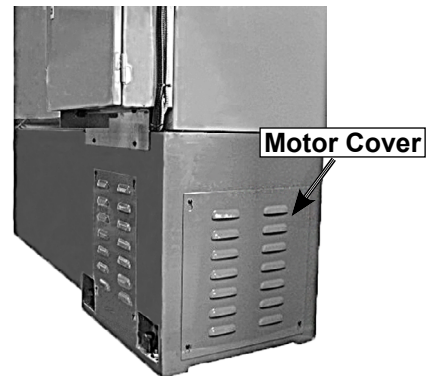

Figure 91. Location of motor cover.
2. Remove the cover shown in Figure 91.